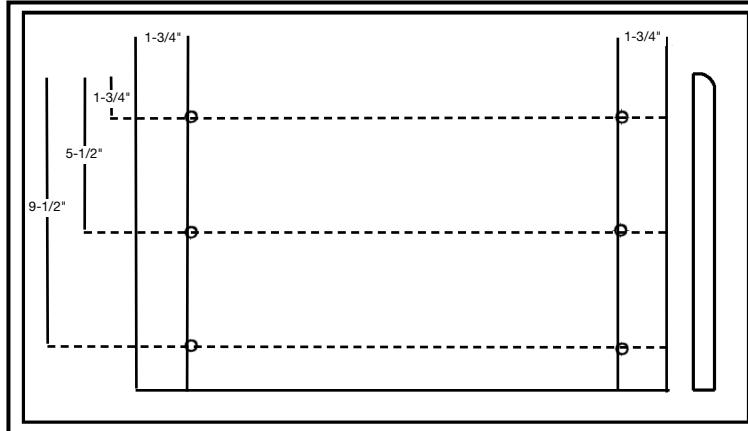
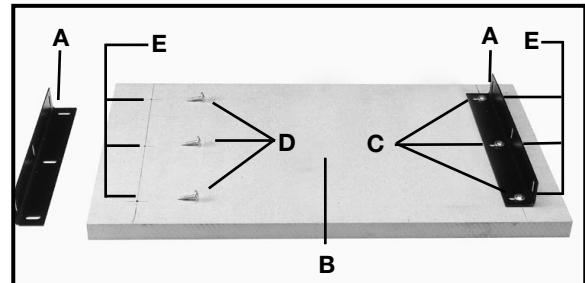
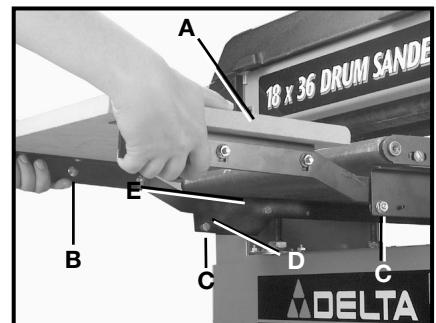
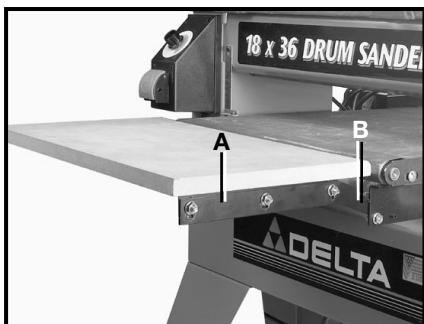

Fig. 2
Fig. 3
Fig. 8
Fig. 9
1. The table boards will require drilling six (6) 1/8" diameter x 3/8" deep holes in the bottom of the each board at the locations illustrated in Fig. 2 and shown as (E) Fig. 3.
2. Position the angle brackets (A) Fig. 3 on the table board (B) and over drilled holes. Place the rounded slots (C) against the board over the holes. Fasten the angle brackets in place using six wood screws (D). Fasten the other angle brackets to the other table board in the same manner. **NOTE: Do not tighten screws all the way, because of further adjustments later.**
8. Install the table assembly (A) Fig. 8 by positioning the support arms (B) over the screws (C) and aligning slots (D) in support arms (B) with screws (E). Hook in place (Fig. 9). Install the other table in the same manner.
9. Adjust the angle brackets that were not completely tightened in Instruction #2 (A) Fig. 3, until the support arms (A) Fig. 9 fit against the support brackets (B) Fig. 9. Tighten the six (6) wood screws that attach the angle brackets to the table board. Repeat for the other table board.